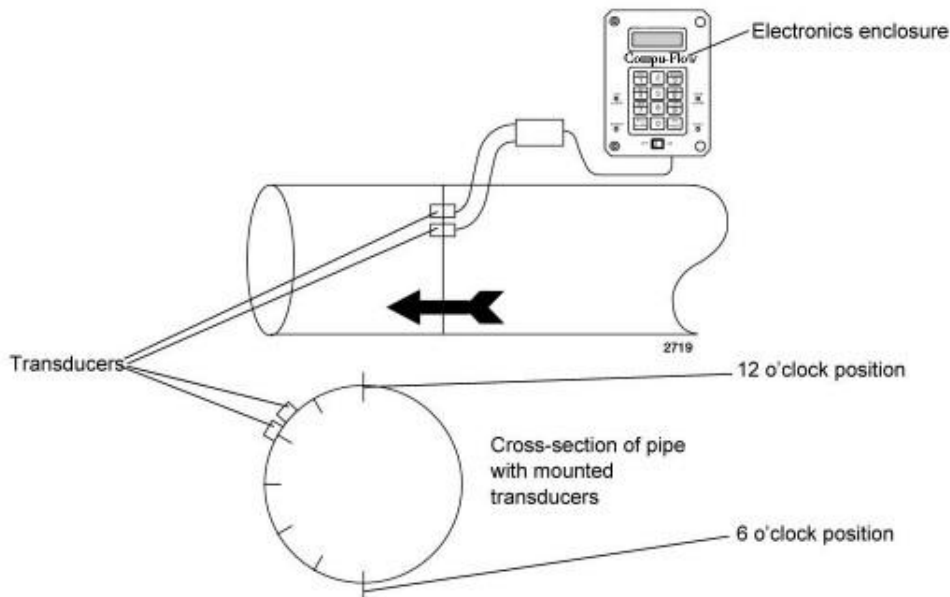

Figure 2-4. Clamp-on transducer placement
- Place the transducers side by side between 7 o'clock and 10 o'clock on the pipe as shown in Figure 2-4. Place the transducers flush to the pipe, facing the same direction. See Figure 2-5 for an example.
Note: Be careful with transducer placement. Air bubbles near the top of the pipe or sediment on the bottom of the pipe can hinder successful flow readings. Place the transducers as shown in Figure 2-4.